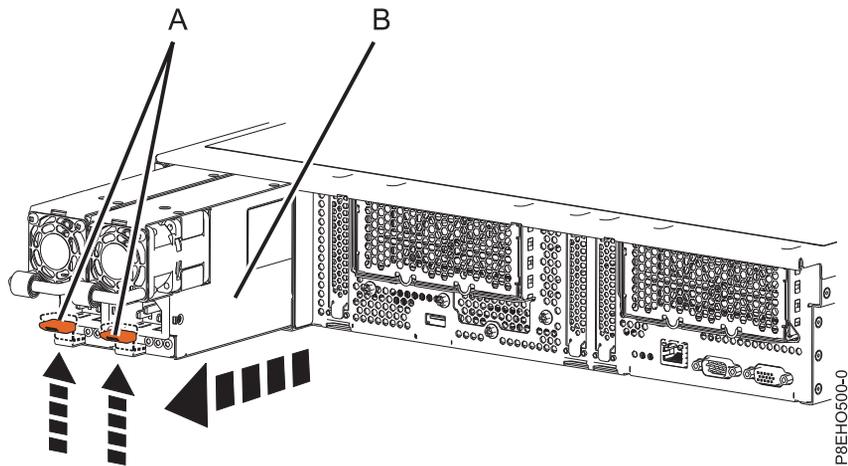

Figure 71. Removing a power supply from the system
- a. To unseat the power supply from its position in the system, pull up the terracotta locking-tab (A). See Figure 71 on page 86.
- b. Grasp the power supply handle with one hand, and pull the power supply (B) part of the way out of the system.